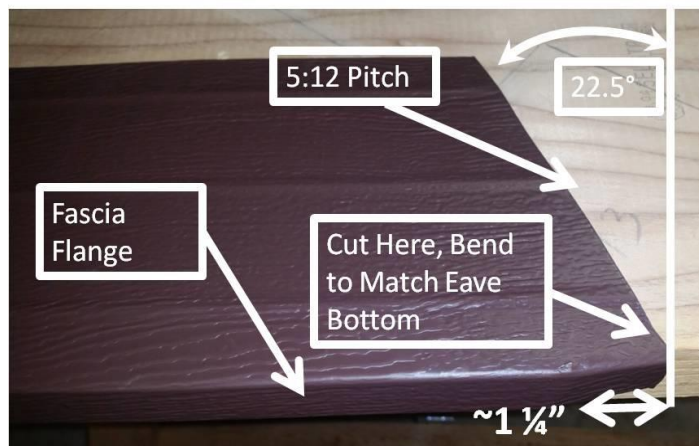

Figure 11-16. Eave End Gable Fascia.
9. Cut the fascia on this line; once installed, the cut edge will be vertical and will match the eave fascia corner. For reference, the blue scale indicates degrees; a 5:12 pitch aligns with 22.5°. Figure 11-16 shows the resulting piece after being cut to the correct angle.